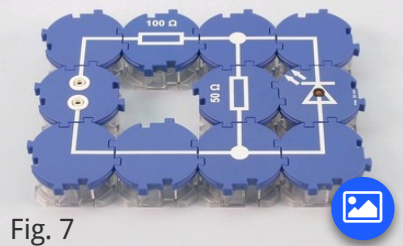

Fig. 7
- Observe the light-emitting diode, then turn it 180° (Fig. 7 and Fig. 8) and observe it again. Write down your observations.